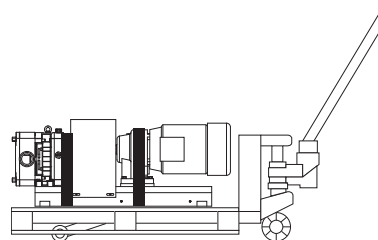

Fig. 9 Moving with industrial truck
- ▶ Ensure that the pump is adequately secured to the pallet, for example, with straps; see *Fig. 9, "Moving with industrial truck," page 9.*